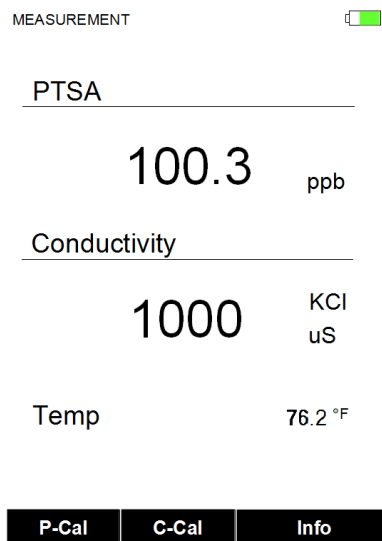

Figure 20
- 3) A screen similar to Figure 20, the basic Measurement (read) screen, appears.
- 10) Or, press **Exit (> key)** to abandon calibration, and return to the basic read mode (Figure 20). No calibration will be done.
- 13) After successful calibration, **press and hold the Calib key for 3 seconds** to return to the basic read screen (Figure 20). Return is not automatic, except through a power-off cycle. Do not do so before the second checkmark and the message appear, or the calibration will not complete.